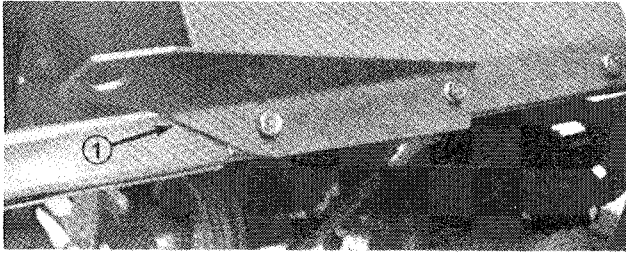

Figure 3
4. Aligning bottom bracket mounting holes with exposed holes (Fig. 3), secure bracket to tower and frame channel with (2) screws previously removed.